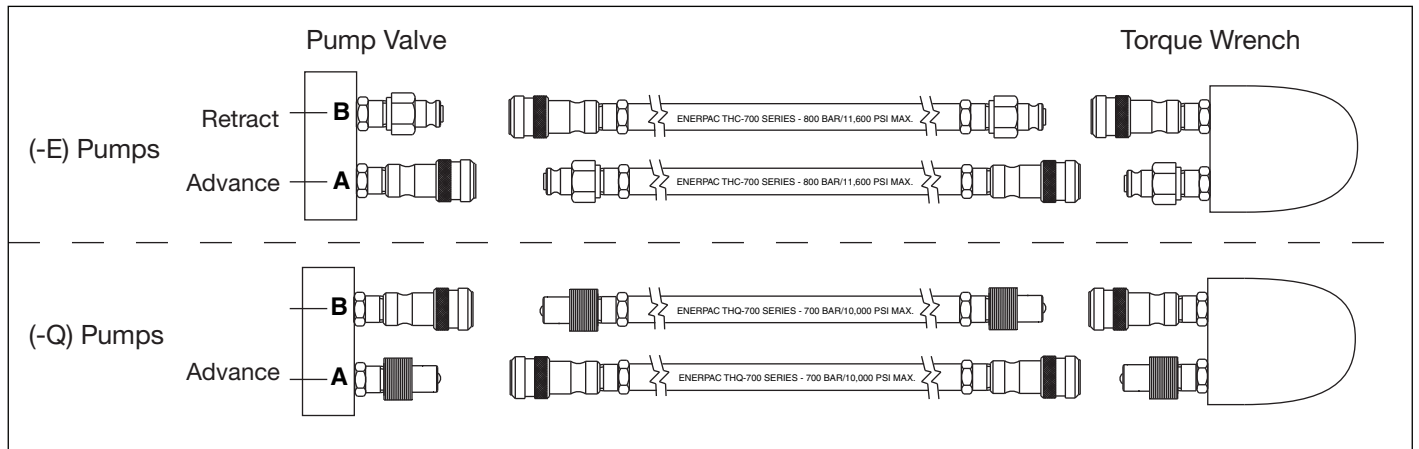

Figure 5, Hose Details
Connect hoses as described for your pump type (-E) or (-Q). Refer to Figure 5.
2. (-Q) Pump type for use with Enerpac S and W torque wrenches and other brands: Use hoses marked “Enerpac THQ-700 series - 700 bar/10,000 psi max.” Couplers must be polarized per Figure 5 for correct wrench operation. Ensure couplers are fully engaged and tightened before operating. Partial coupler engagement will prevent proper wrench operation.